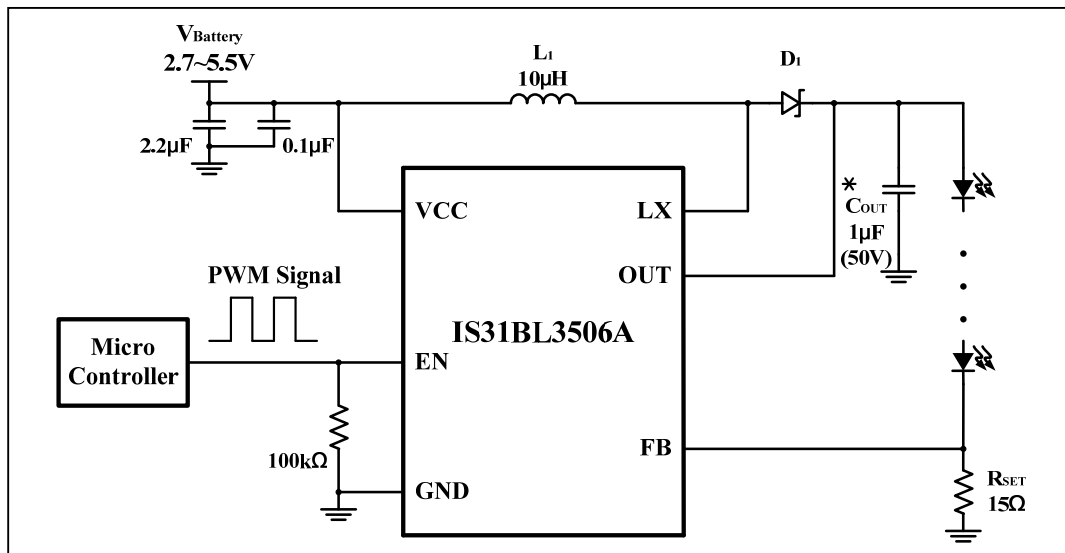

Figure 1 Constant current white LED driver using PWM at the EN pin to control intensity
When the IS31BL3506A is used for LED driving applications (Figure 1), the LED current flows through the external feedback resistor R_{SET} to regulate the LED current. The internal feedback regulation point is 0.3V. The maximum LED current may be calculated by the following equation, (1).